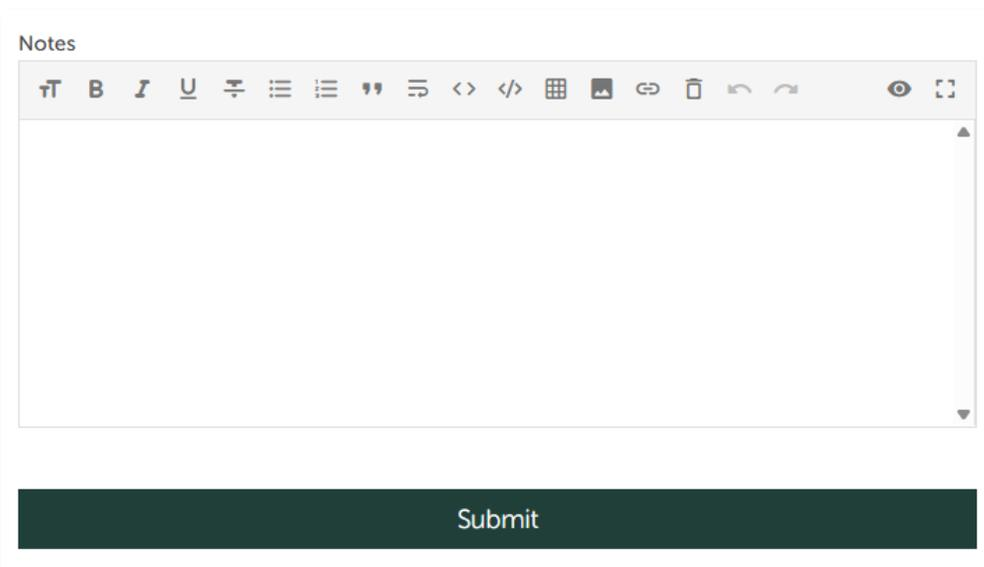

Figure 9: Internal notes field and Submit button.
- 4. For internal notes, free type in the notes field and then click Submit when all fields are complete. – see **Figure 9**.